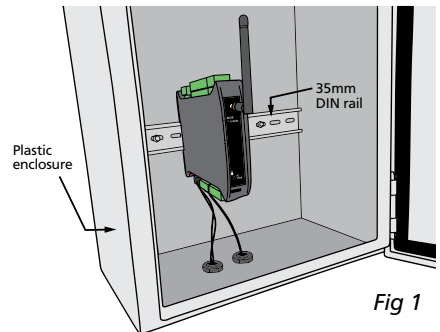

Fig 1
#### A - Plastic Enclosure (Fig 1)
**IMPORTANT!** The device should be mounted in the vertical orientation as shown in Fig 1.